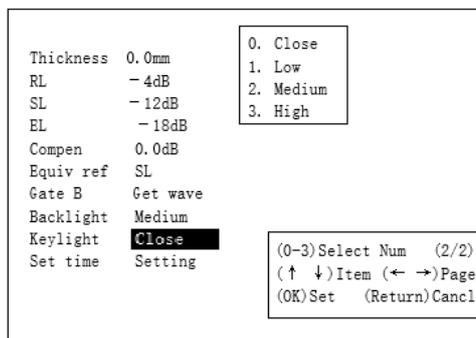

Figure2-23
2.2.7.20 Keyboard Brightness Selection: Press , and the brightness off is reflected, as shown in Figure 2-23.